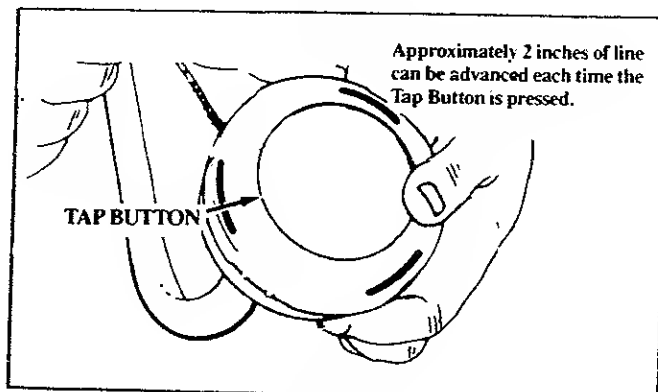

Figure 3
- Press the Tap Button and pull the Trimmer Line from the Head a minimum of 4 inches. Figure 3. Approximately 2 inches of line can be advanced each time the Tap Button is pressed.
- b. Extend line 4-6 inches from Trimmer Head to provide adequate load on engine. Figure 3.